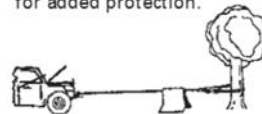

Figure 5
10. It is a good idea to lay a heavy blanket or jacket over the wire rope near the hook end when pulling heavy loads (Figure 5). If a wire rope failure should occur, the doth will act as a damper and help prevent the rope from whipping. Raise hood of vehicle for added protection.